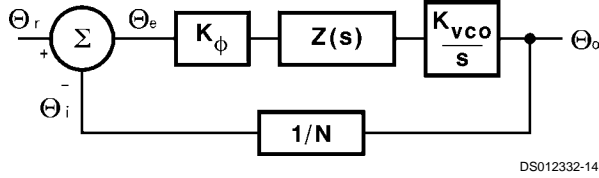
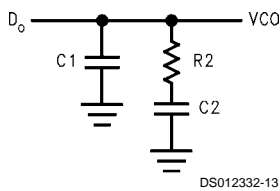

FIGURE 2. PLL Linear Model
FIGURE 3. Passive Loop Filter
A linear control system model of the phase feedback for a PLL in the locked state is shown in *Figure 2*. The open loop gain is the product of the phase comparator gain ( $K_\phi$ ), the VCO gain ( $K_{VCO}/s$ ), and the loop filter gain  $Z(s)$  divided by the gain of the feedback counter modulus ( $N$ ). The passive loop filter configuration used is displayed in *Figure 3*, while the complex impedance of the filter is given in *Equation (2)*.